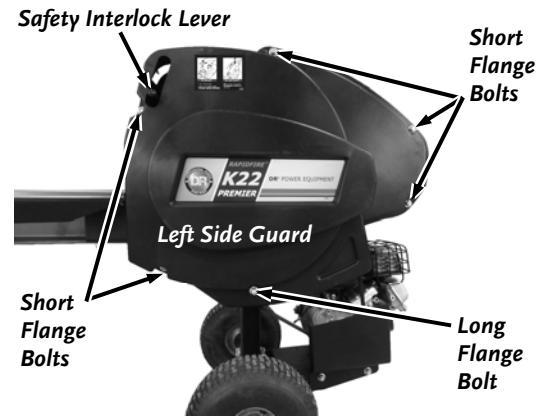

Figure 39
1. Remove the long Flange Bolt and Locknut that secures the lower portion of the Guards to the Frame using two 9/16" Wrenches (**Figure 39**).